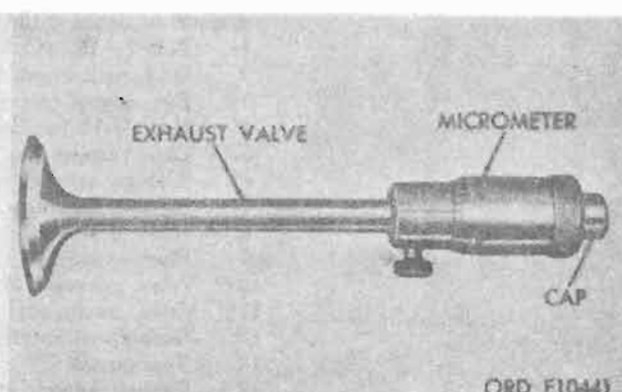

Figure 4-141. Typical gage for checking valve stem-to-cap clearance.
(1) *General.* Special equipment is required to accurately measure exhaust valve stem cap clearance. This clearance must be checked whenever an exhaust valve or any of its retaining parts are replaced. Gage kit ORD 7950601 or suitable accurate precision equipment can be used to measure clearance between end of valve stem and valve stem cap. Exhaust valve locks and valve stem cap, once fitting with valve, should be kept as a group with the valve. At installation, be sure that locks are assembled with wear on same side to avoid cocking spring seat. Valve stem locks can be inverted to use the unworn side of the locks. If this is done, valve cap clearance must be checked again (fig. 4-141).